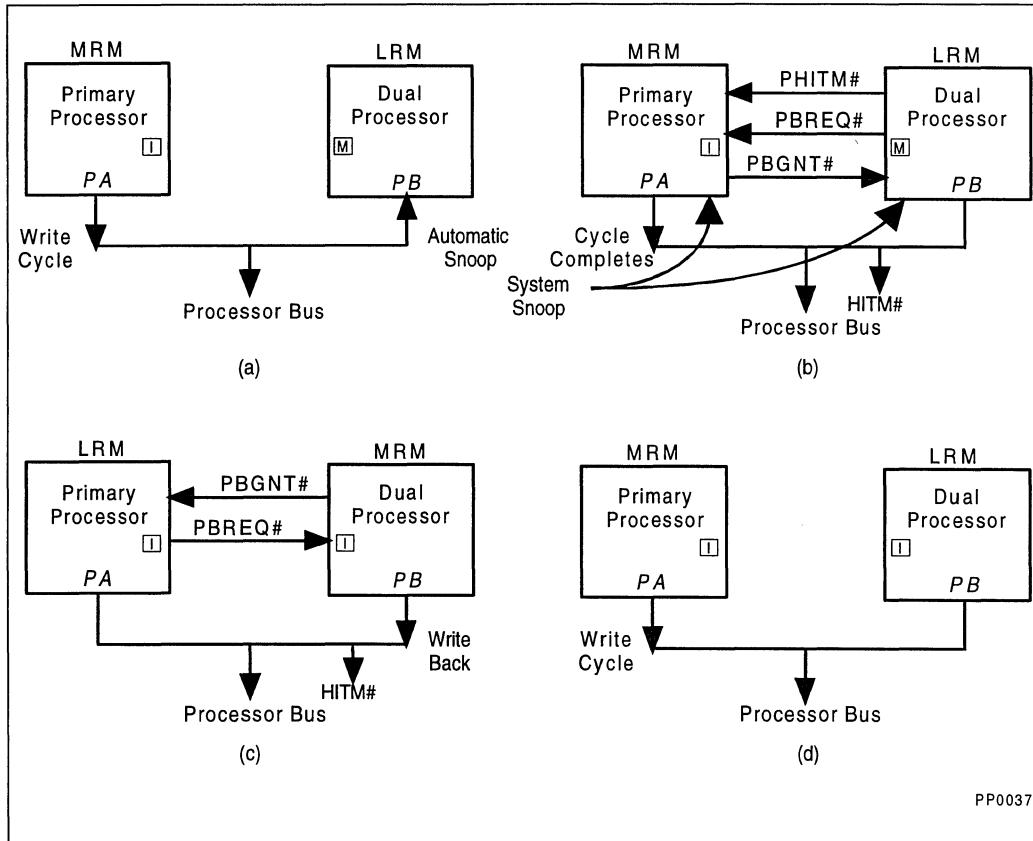

Figure 20-7. DP Cache Consistency for External Snoops
In diagram (a) of Figure 20-7, processor *PA* starts a write cycle on the bus to a line that is in the *M* state in processor *PB*. Processor *PB* notifies *PA* that the write transaction has hit an *M* state line in diagram (B) of Figure 20-7 by asserting the *PHITM#* signal. The MRM (*PA*) completes the write cycle on the bus as if the LRM processor did not exist.
In this example, an external snoop happens just as the write cycle completes on the bus, but before *PB* has a chance to write the modified data back to the system memory. Diagram (b) of Figure 20-7 shows *PB* asserting the *HITM#* signal, informing the system that the snoop address is cached in the dual processing pair and is in the modified state. The external snoop in this example is hitting the same line that caused the *PHITM#* signal to be asserted.
Diagram (c) of Figure 20-7 shows that an arbitration exchange has occurred on the bus, and *PB* is now the MRM. Processor *PB* writes back the *M* state line, and it will appear to the system as if a single processor was completing a snoop transaction.
Finally, diagram (d) of Figure 20-7 shows processor PA re-running the original write cycle after PB has granted the bus back to PA .